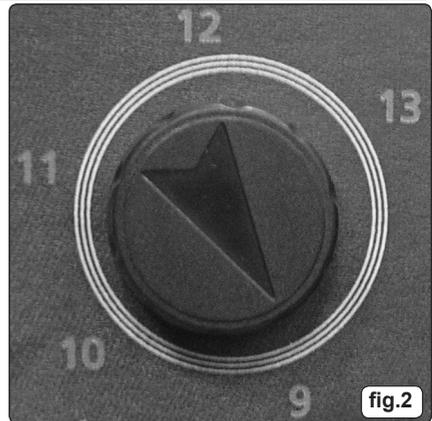

fig.2
- 4.6.1 Refer to the shade guide in Section 7 and adjust the knob on the side of the helmet to the correct setting (fig.2).